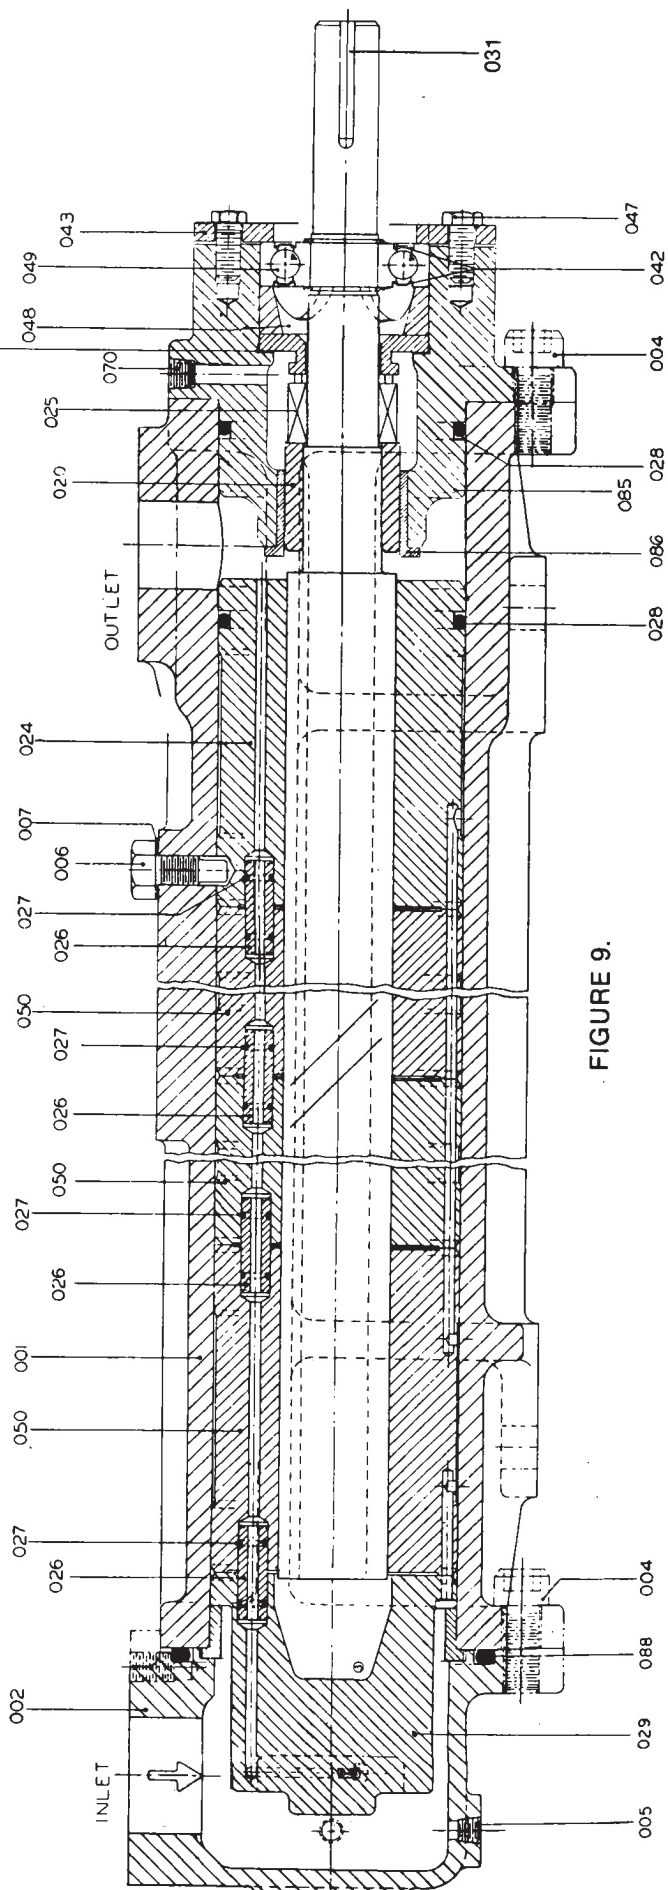

FIGURE 9.
**STEP 29. (Figures 9, 10 and 11 - Inlet Head with O-ring)** Install O-ring (088) in groove of inlet head (002).
**STEP 30.** Install inlet head (002) using capscrews or bolts (004). If applicable, washers (090 or 092) will be installed with bolts (004). Torque capscrews or bolts (004) to proper value listed in Table 3.
**NOTE:** Inlet head (002) can be rotated and re-positioned in 90° increments to suit suction pipe arrangements. To change the inlet head position, disconnect tubing, remove capscrews or bolts, and rotate inlet head to desired position, ensuring that gasket or O-ring is not damaged. Replace capscrews or bolts and torque capscrews or bolts to proper value listed in Table 3.
**STEP 31.** Install coupling hub and key (031).
- (1) Minor Repair Kit items.
- (2) Major Repair Kit items. Items marked (1) also included in Major Repair Kit.
- (3) Quantity is four (4) for Figure 8; eight (8) for Figures 9, 10, and sixteen (16) for Figures 11-15.
- (4) Quantity is one for 106-187.
- (5) Not Required for 156 and 187.
- (6) Quantity is four for 156 and 187.
- (10) Quantity is two (2) for Figures 13 and 14, four (4) for Figures 9, 10 and 12.